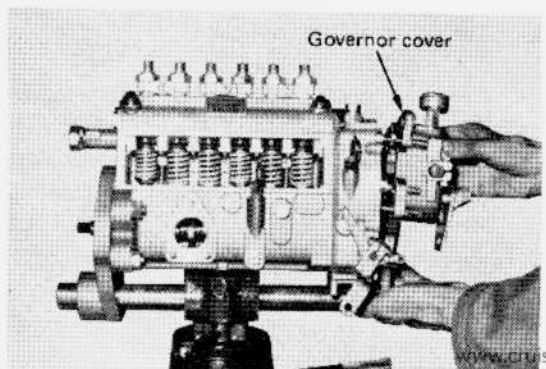

Fig. 3-161 Governor Cover Removal
- 1) Remove the return spring (23) of adjusting lever (49), loosen the lock nut of the maximum speed adjusting screw (30), and by loosening this, release the control spring tension within the governor.
- 2) Loosen the six 6 mm and one 8 mm bolts securing the governor cover (28), and remove the governor cover completely by pulling toward the rear as illustrated in Fig. 3-161.